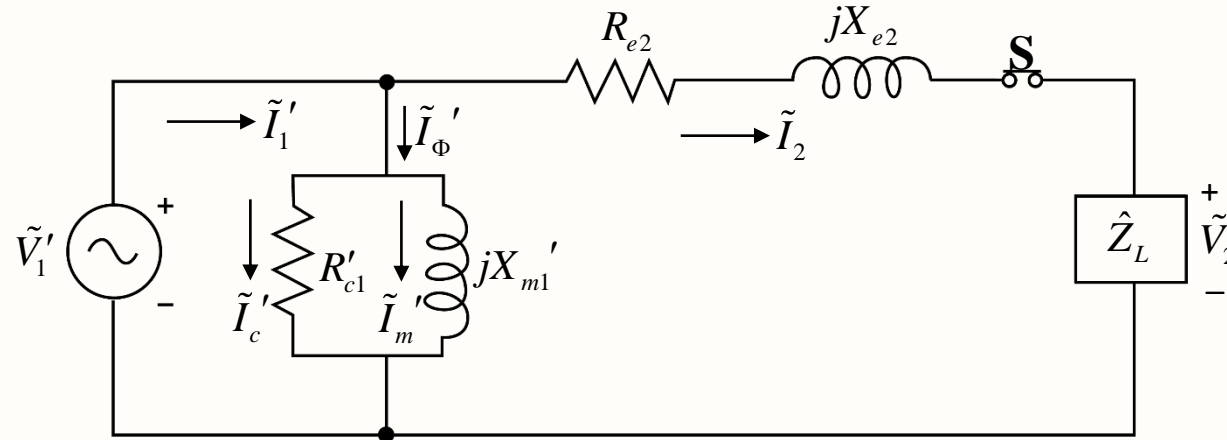

Fig. 27. Approximate equivalent circuit referred to the secondary.
- Consider a transformer supplying a **full load** at **rated voltage** as shown in Fig. 27.